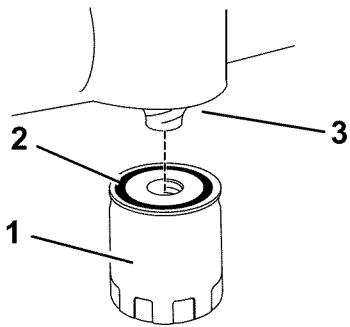

Figure 28
14. Install the replacement oil filter to the mounting pad. Turn the oil filter clockwise until the rubber gasket contacts the pad, then tighten the filter an additional 2/3 to 1 turn (Figure 28).